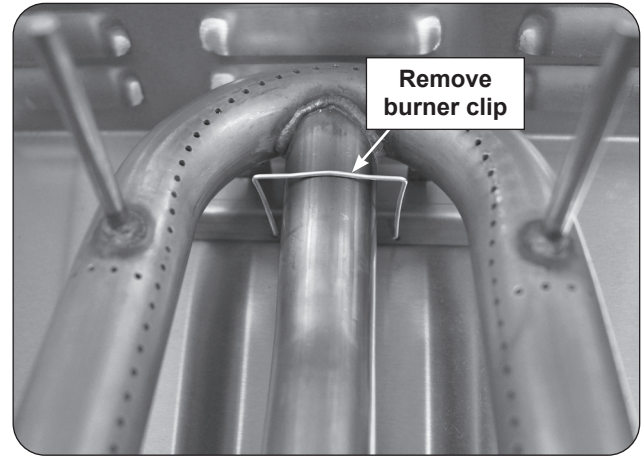

Fig. 37-1 Main burner removal
3. Locate the burner clip (located over the rear center tube of the burner) and slightly pinch and remove the clip from the burner support. See Fig. 37-1.